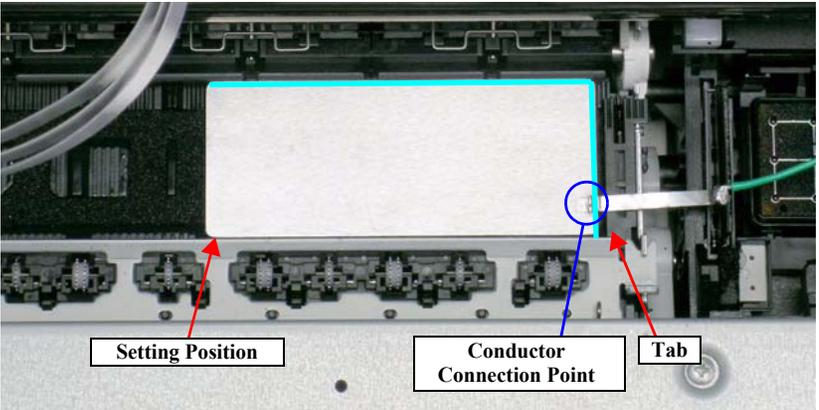

Figure 4-17. Setting the Adjustment Gauge
- Right direction: Release the right end of the Gauge from the Tab on the Front Paper Guide in Figure 4-17.